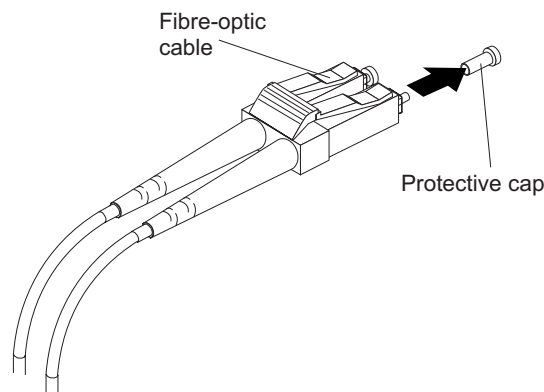

Figure 33. Removing fibre-optic cable protective caps
3. Remove the two protective caps from one end of the LC-LC cable, as shown in Figure 33. Save the protective caps for future use.